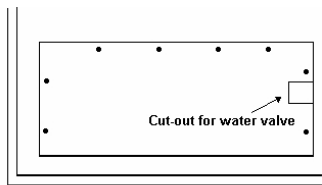

Figure 17
15. Attach a potable water supply to water valve. Purge the supply line to remove stale water, sediment and air. You may need to remove cutout on back cover if you have an internal condenser. (see Figure 17) Follow the installation instructions provided with the water supply line kit. **Trouble saving tip:** If you have an existing supply line, now is a good time to replace it, so examine the copper or plastic thoroughly to determine if it needs replacing. Look for wear marks, brittleness, fatigue lines, or damage. Rule of thumb; if in doubt replace it.